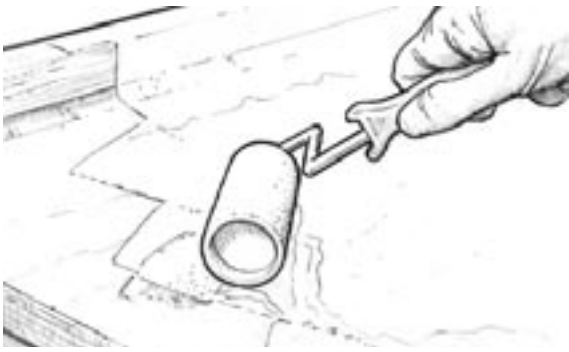

Figure 3-12 Wet out porous surfaces before applying thickened fairing compound.
2. Wet out porous surfaces with unthickened epoxy (*Figure 3-12*). When cured, wash and sand these epoxy surfaces.